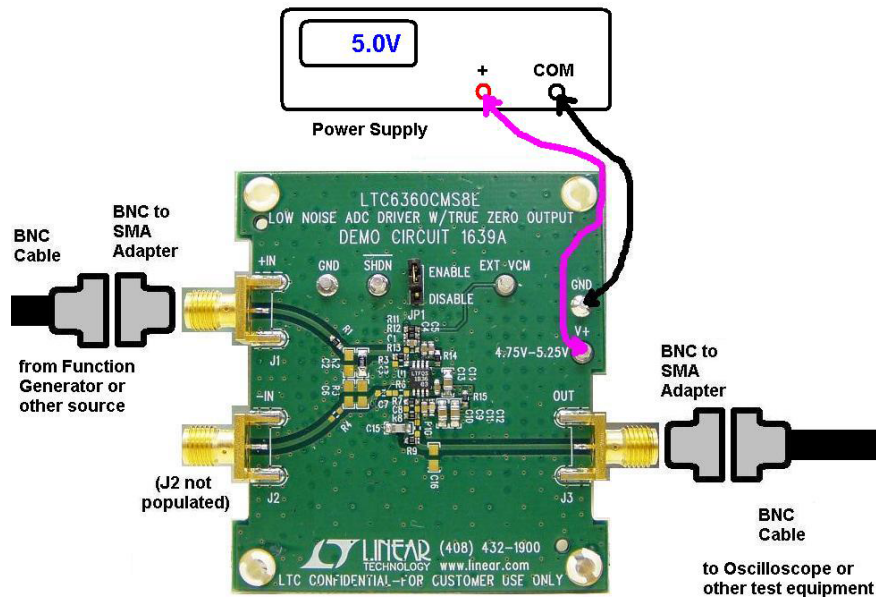

Figure 1. Proper Equipment Setup.
1. Set the power supply to 5V, then turn off the power supply. As shown in Figure 1, connect the +5V lead from the power supply to the V^+ terminal of the demo circuit, and connect the COM side of the supply to the GND terminal of the demo circuit.